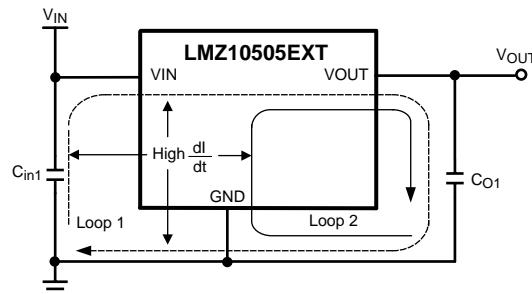

Figure 29. Critical Current Loops to Minimize
From an EMI reduction standpoint, it is imperative to minimize the high di/dt current paths. The high current that does not overlap contains high di/dt , see Figure 29. Therefore physically place input capacitor (C_{int1}) as close as possible to the LMZ10504EXT VIN pin and GND exposed pad to avoid observable high-frequency noise on the output pin. This will minimize the high di/dt area and reduce radiated EMI. Additionally, grounding for both the input and output capacitor should consist of a localized top side plane that connects to the GND exposed pad (EP).